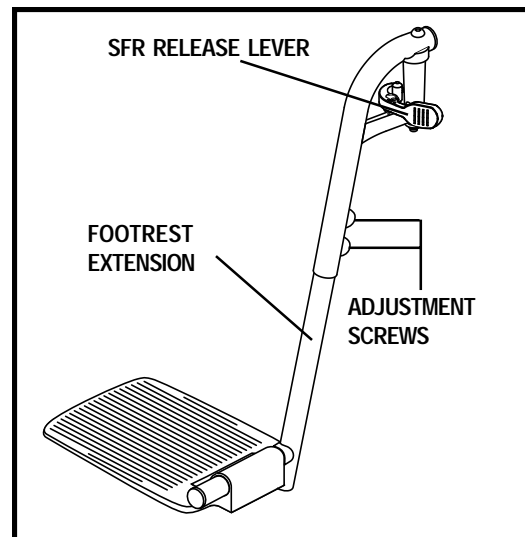

Figure 19. Swing-Away Footrests
1. Push in the release lever. See figure 19.
1. Remove the two adjustment screws from the back of each footrest extension. See figure 19.